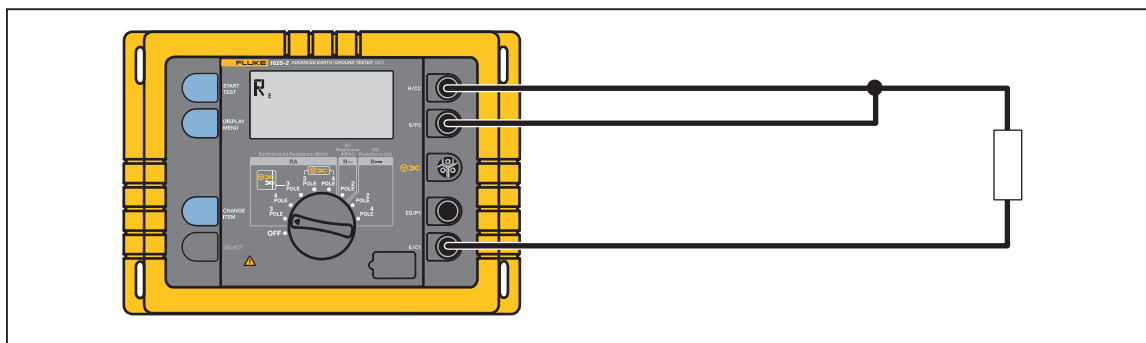

Figure 8. Correcting Clip-on Transformer Errors
1. Connect a low Ohm resistor (approximately 1 Ohm - in the range you want to correct) as shown in Figure 8.